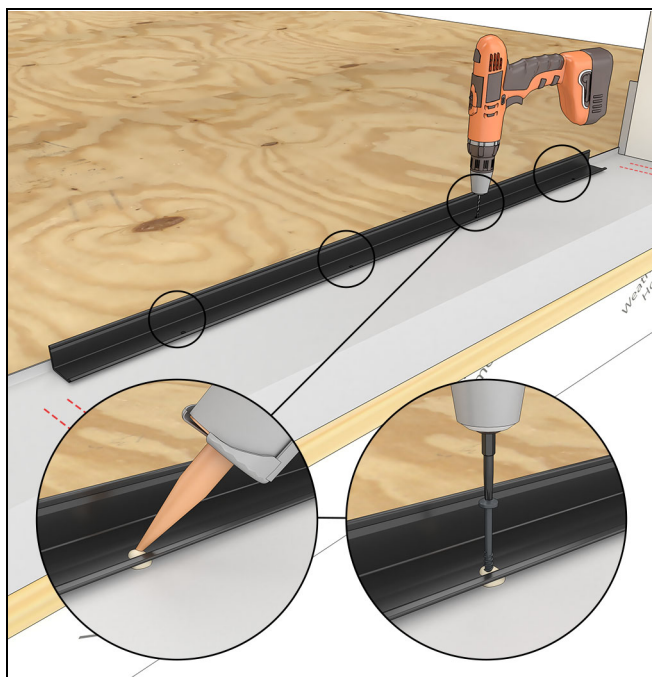

Figure 7
5. Depending on your construction, use the appropriate fastener to fasten the sill support to the sill. Follow manufacturers instructions for proper application. See Figure 7.